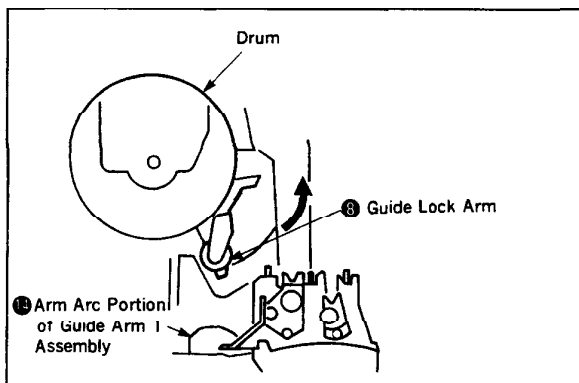
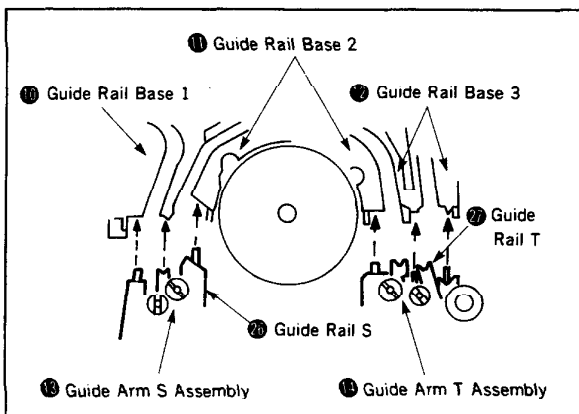

Fig. 15
Fig. 16
Simultaneously performing the operations above, push the roller of the guide lock arm ⑧ With the arm arc portion of the guide arm T assembly ⑧ (Fig. 15) to push the LS chassis assembly ⑦ in a direction of the arrow **E**, and at the same time, engage the claws of the guide rail base 1 ⑩, guide rail base 2 ⑪ and guide rail base 3 ⑫ with those of the guide rail S ⑬ and guide rail T ⑭. (Fig. 16)